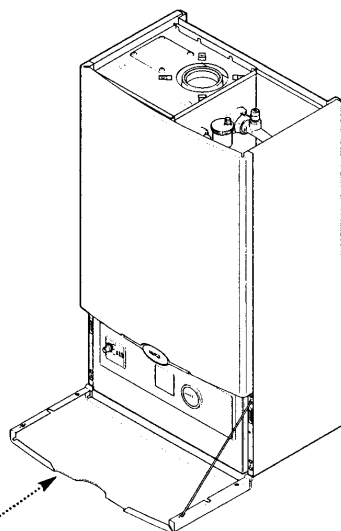

Fig. 1
5. A label giving details of the model, serial number and Gas Council number is situated on the rear of the lower door panel (Fig. 1).